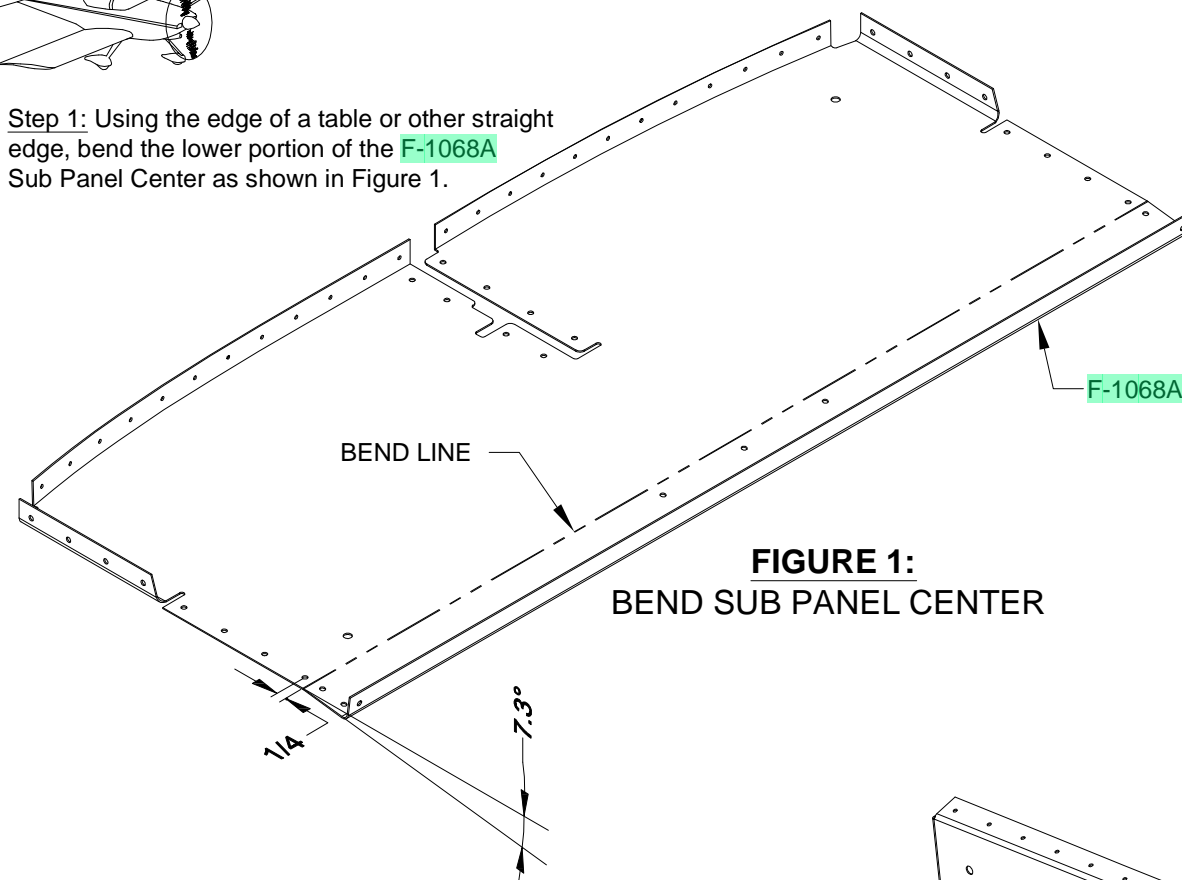

FIGURE 1:
Step 1: Using the edge of a table or other straight edge, bend the lower portion of the F-1068A Sub Panel Center as shown in Figure 1.